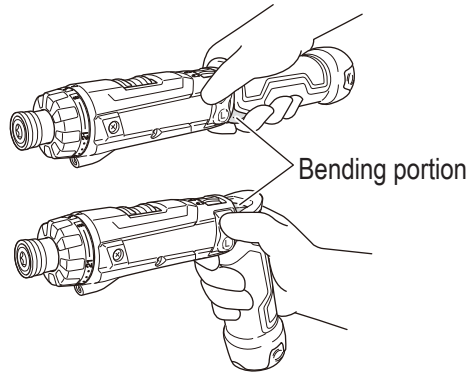

Fig. 1
Failure to do so can result in accidents or injuries. (Fig. 1)
3. **Use this tool in straight configuration or pistol configuration according to the purpose of the work. When bending the tool body or straightening it again, do not touch the bending portion. (Fig. 1) Your finger or other part of the hand may be pinched by the bending portion resulting in possible injury (Fig. 1).**